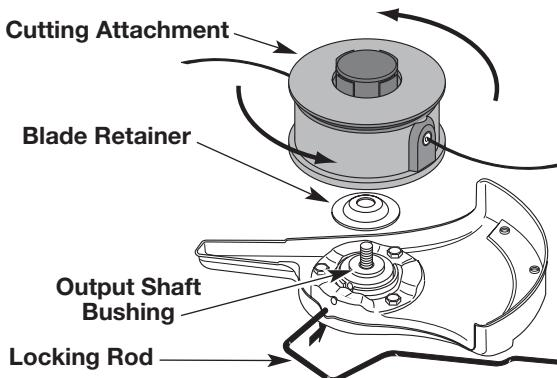

Fig. 14
5. Align the shaft bushing hole with the locking rod slot and insert the locking rod into the shaft bushing hole (Fig. 7). Place the blade retainer on the output shaft with the flat surface against the output shaft bushing (Fig. 14). Screw the cutting attachment counterclockwise onto the output shaft. Tighten securely.